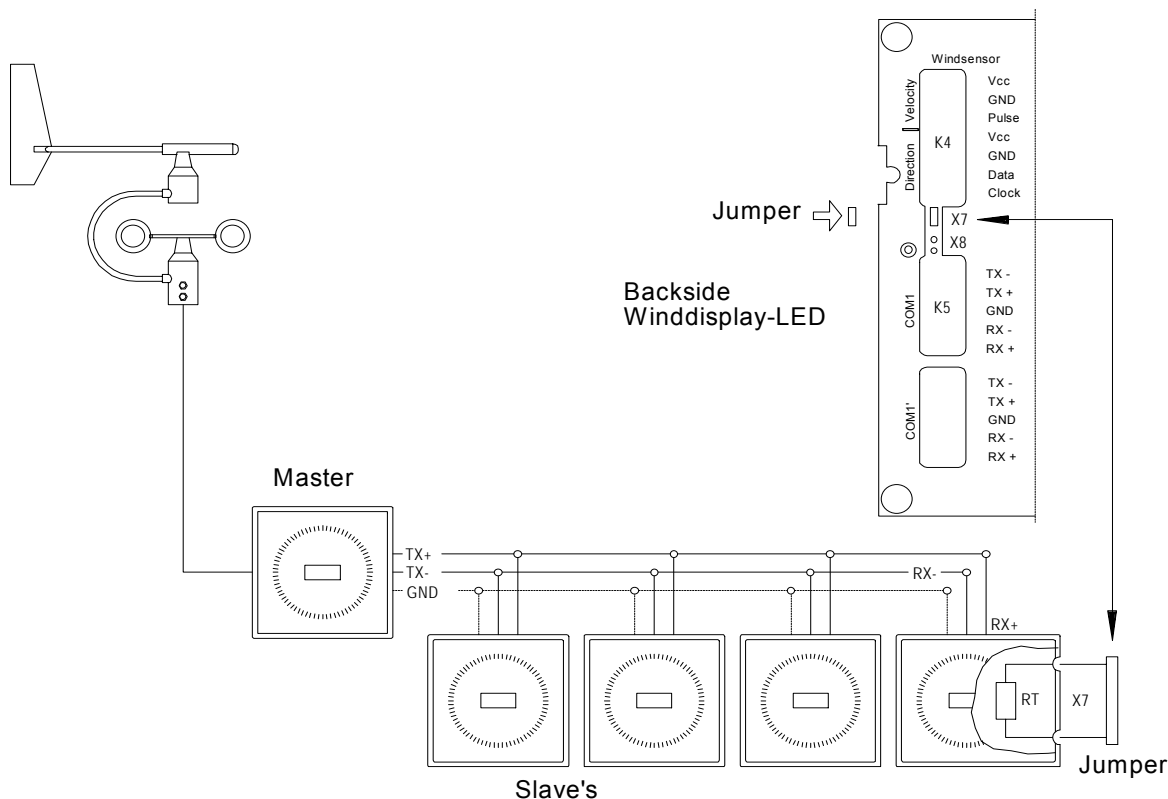

Figure 4: Example for connection
For termination using long cables the rear of the wind display is equipped with contact pins X7, which can be bridged from outside using a jumper if required (ref. figure 4).
- When a jumper (X7) is inserted at the receiver (Slave) the integrated termination resistor (RT=200Ω) is activated (ref. figure 4.).